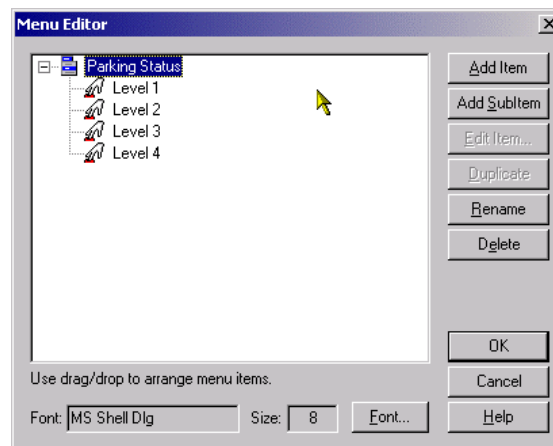

Figure 5.37
12. Now select **Add SubItem** and type **Level 1**. Add three more levels in the same way for **Levels 2-4**. The **Menu Editor** window will look like Figure 5.37.